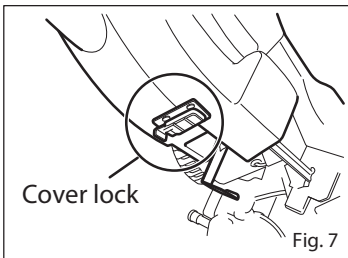

Fig. 7
4. Changing the Blade (Figs. 7 ~ 12)
- (1) Open the frame and release the two cover locks on the bottom of the frame. (Fig. 7)